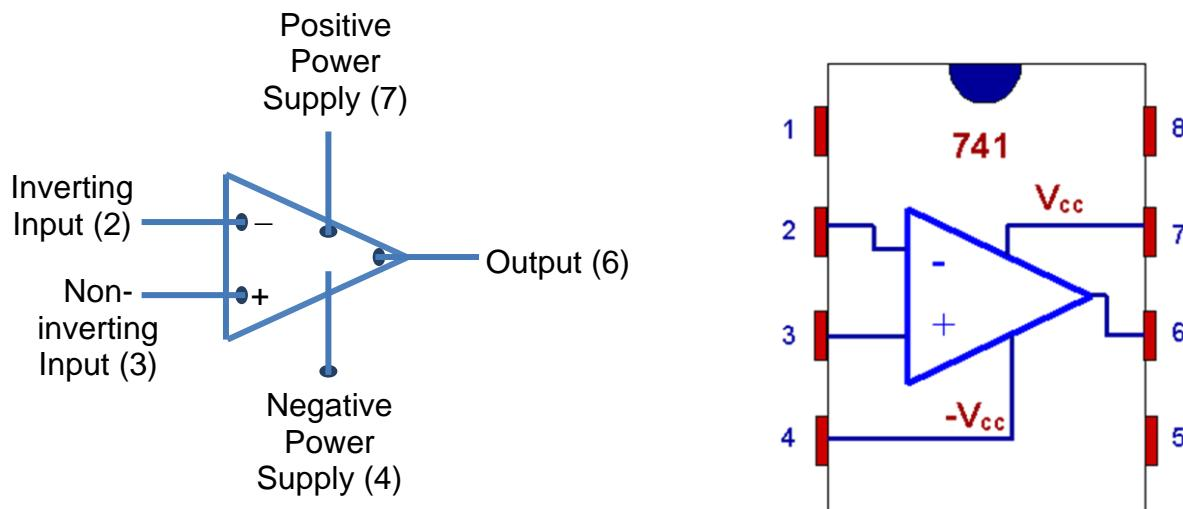
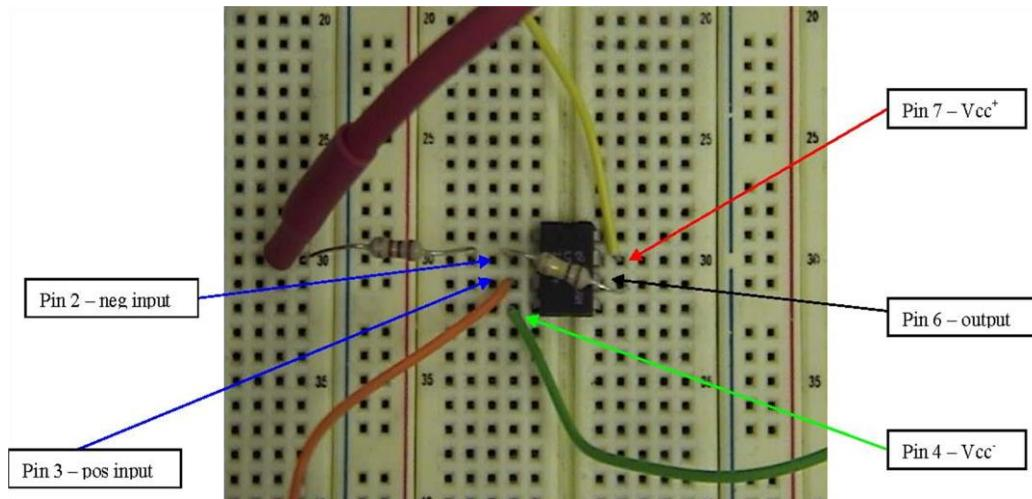

Figure 4.2 – Schematic diagram and pin configuration for the LM741CN Op-Amp.
Figure 4.3 – Op-Amp connections on a breadboard.
**Operational Amplifiers:** As discussed in class, a typical op-amp has five connections as shown in Figure 4.2: Two inputs, two power supplies, and one output. In the lab, we will use the LM741CN op-amp which comes in an eight pin DIP (dual in-line package) integrated circuit (IC). The pin connections for this particular op-amp are also shown in Figure 4.2. Note that there is a small semi-circular notch on one end of the IC so that you can tell which end is pins 1-4 and which end is pins 5-8. The size and spacing of the pins on the IC have been carefully constructed so that the IC will plug nicely into your breadboard as shown in Figure 4.3. Given the positioning of the two resistors in Figure